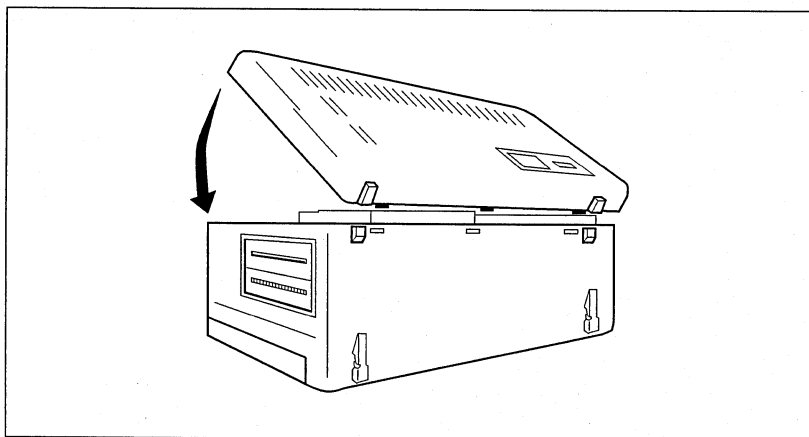

fig. 5-6
7. Replace the rear cover on the main unit by inserting the panel hinges into the system case (fig. 5-6).